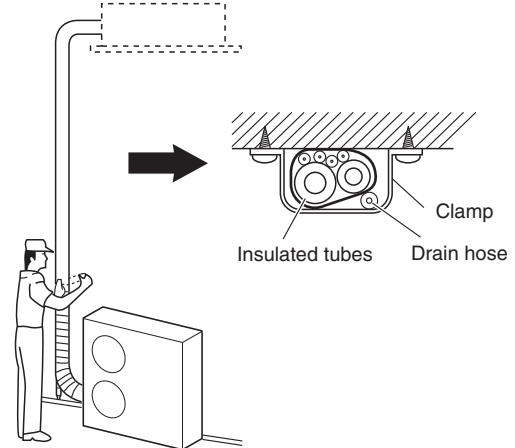

Fig. 5-8
- (1) At this time, the refrigerant tubes (and electrical wiring if local codes permit) should be taped together with armoring tape in 1 bundle. To prevent the condensation from overflowing the drain pan, keep the drain hose separate from the refrigerant tubing.
- (2) Wrap the armoring tape from the bottom of the outdoor unit to the top of the tubing where it enters the wall. As you wrap the tubing, overlap half of each previous tape turn.
- (3) Clamp the tubing bundle to the wall, using 1 clamp approx. each meter. (Fig. 5-8)